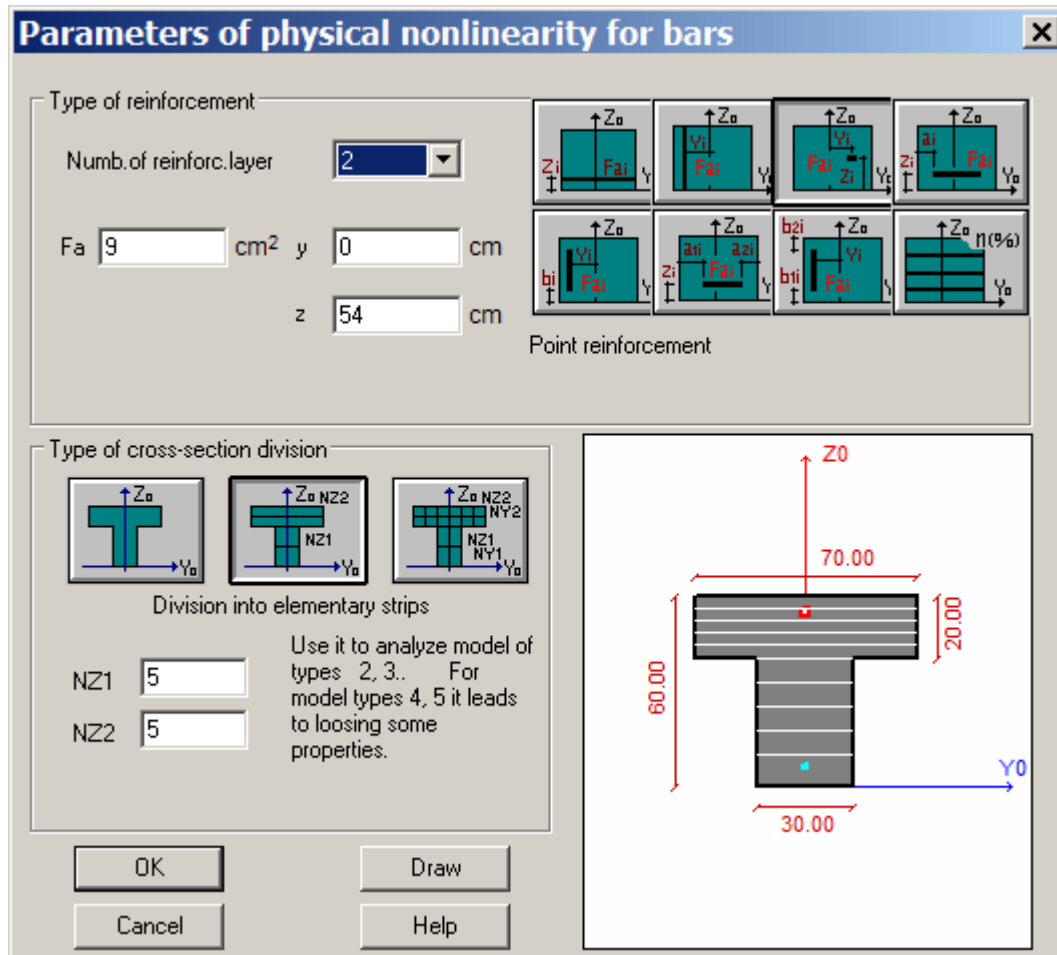

Figure 7.17 **Parameters of physical nonlinearity for bars** dialog box
- ⇒ In the **Parameters of physical nonlinearity for bars** dialog box (see Figure 7.17), click the **Point**